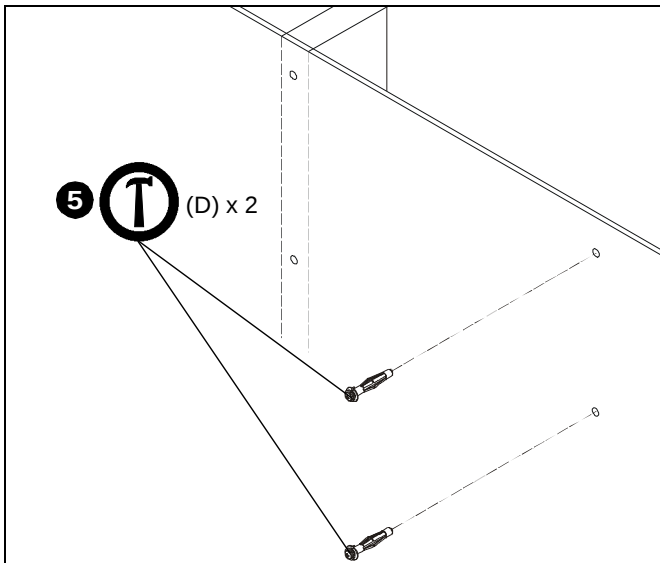
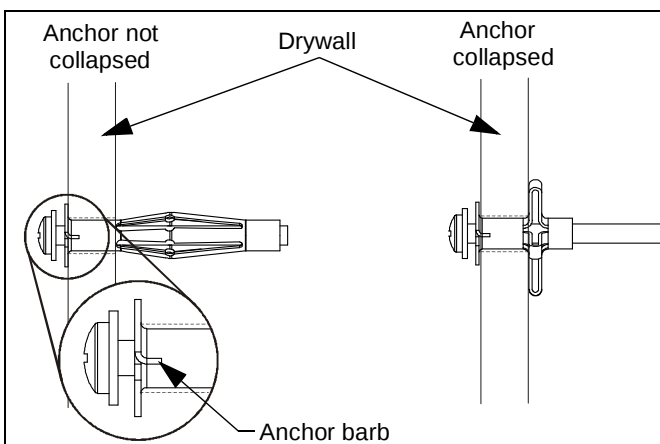

Figure 3
Figure 4
5. Gently tap two anchors (D) into anchor holes. Anchor barbs should be fully engaged in drywall. (See Figure 3) and (See Figure 4)
6. Using Phillips screwdriver, tighten anchor screw until anchor has fully collapsed against back side of drywall. (See Figure 4)